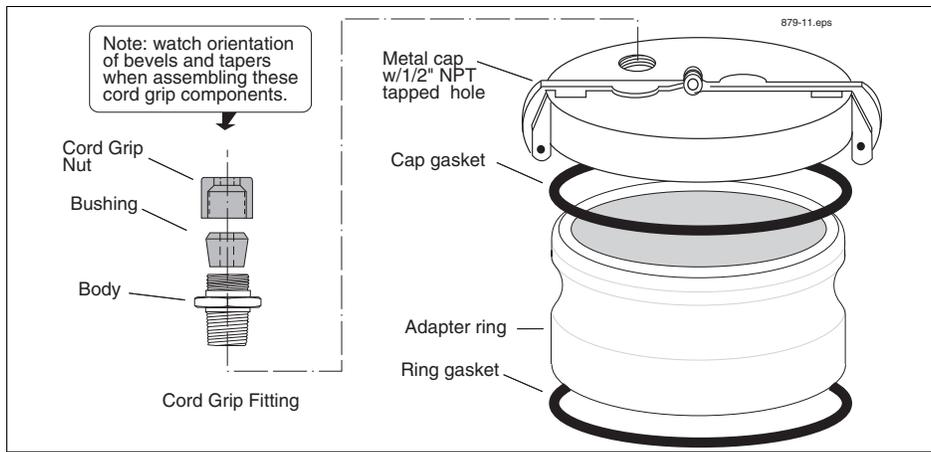

Figure 5. Metal Cap And Ring Kit
This riser cap kit contains an adapter ring which screws onto the 4" NPT riser and a quick-release metal cap which clamps onto the ring (Table 4). The cap comes drilled and tapped with a cord grip (Figure 5).
If installing the metal cap and adapter ring (see Figure 5 on page 9), screw the ring onto the 4" riser until the gasket contacts the pipe, then use a torque wrench attached to an appropriate strap wrench (K-D Specialty tools nylon strap oil filter wrench, or equivalent) and tighten the ring to 35 - 45 ft-lbs. Push the cable through the metal cap and cord grip, then clamp the cap onto the adapter ring.
2. If installing the metal cap and ring (see Figure 5), screw the ring onto the 4" riser until the gasket contacts the pipe, then use a pipe wrench to tighten it an additional 3/4 turn. Using UL-classified pipe sealant (suitable for the fuels involved), screw the cord grip fitting into the tapped hole and tighten. Place the cord grip bushing in the fitting. Discard the cord grip nut and loosely screw the Adapter Nut from the AST kit onto the cord grip fitting (see Figure 7). Push the cable through the metal cap, bushing, and Adapter nut, then clamp the cap onto the ring. Make sure there is a minimal amount of slack between the probe and cap, then tighten the Adapter Nut until the cable is held firmly.